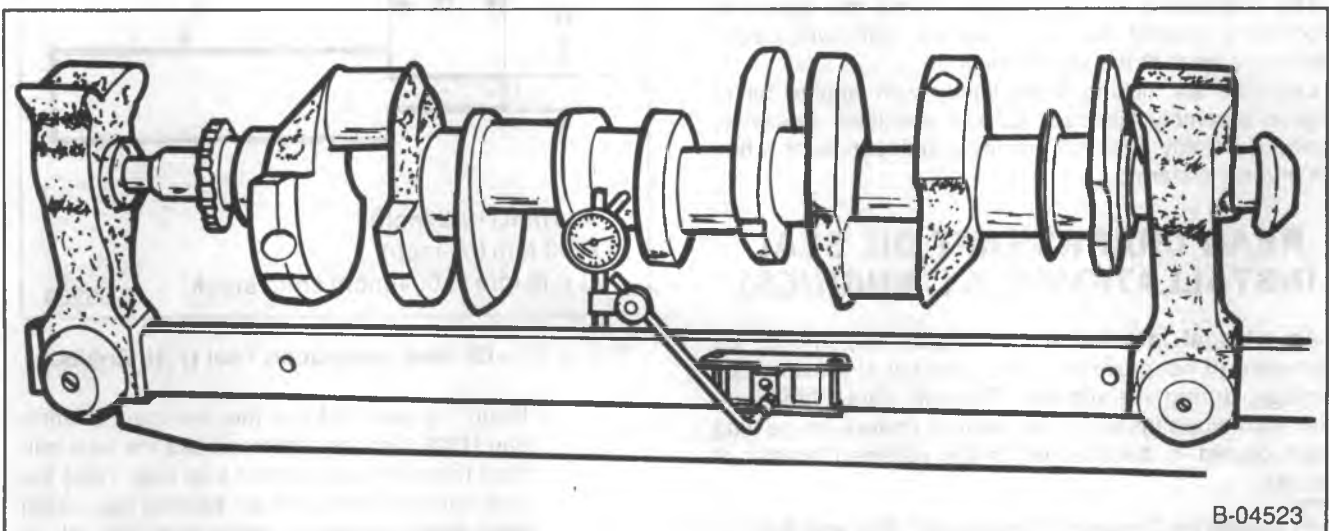

Figure 48—Checking Crankshaft Run-Out
- Crankshaft run-out (figure 48).